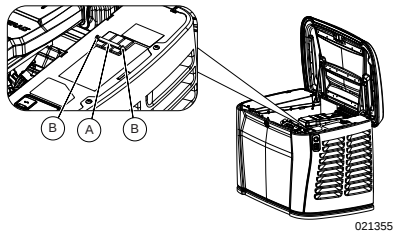

Figure 2-8. Generator Main Line Circuit Breaker
See Figure 2-8. This is a 3-pole main line circuit breaker (MLCB) (generator disconnect) (A) rated according to relevant specifications.